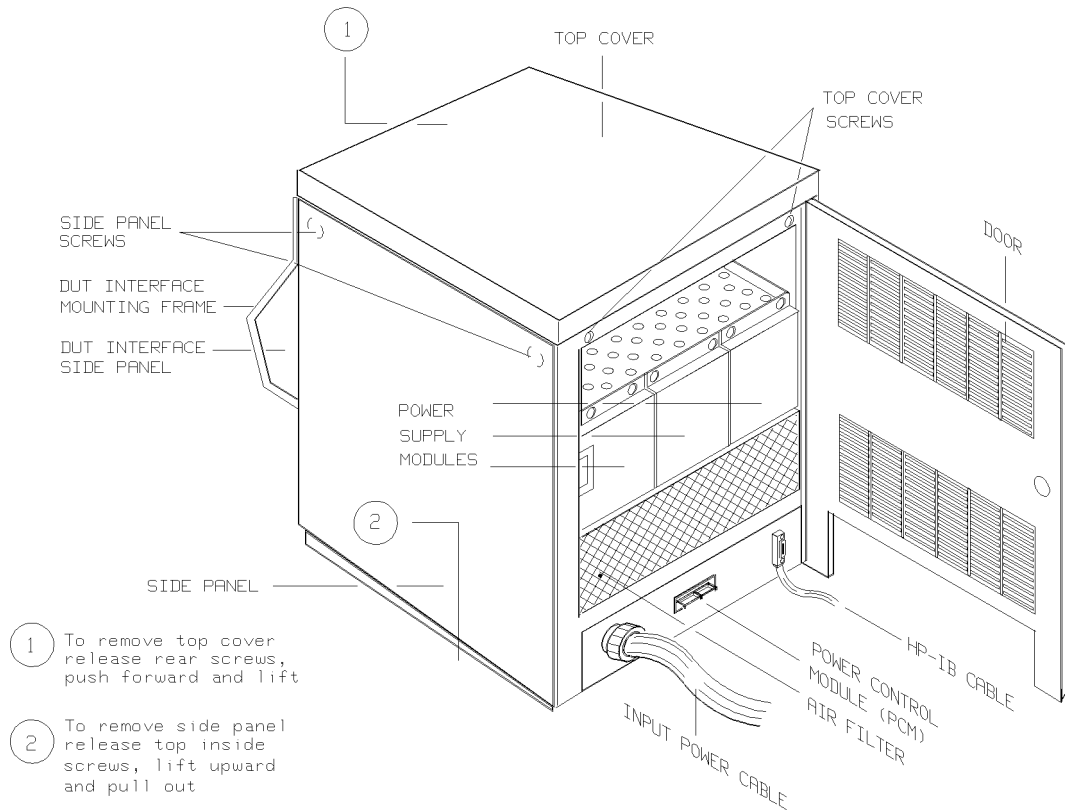

Figure 5-2. Standardframe
2. Remove the top cover of the Master and Extender Standardframes. This is done by opening the rear door and removing the 2 top cover screws. The top cover can now be taken away by pushing it forward (viewed from the rear) and lifting off its hook fasteners. Refer to Figure 5-2.